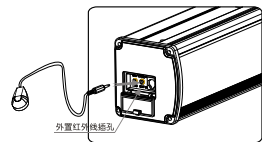

Figure 44
- 2.For hidden installation or IR window is blocked by something, please take out the External IR Receiver and plug its head to the relevant hole, and then fix it at the position where IR signal is available. (Figure 44)